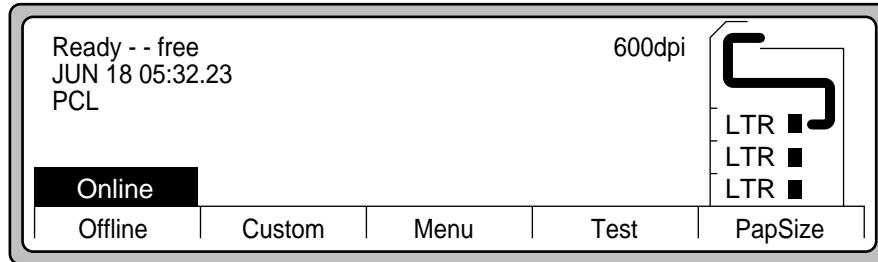

Figure 2-79 Ready (Main Screen)
12. When the printer has finished initializing, you will see the **Ready** message, as shown in Figure 2-79